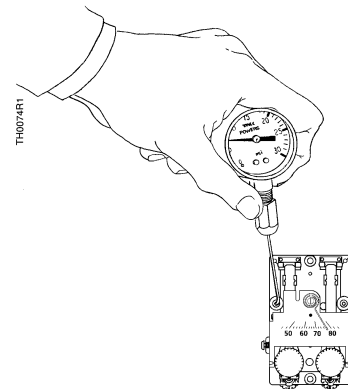

Figure 5. TH193 HC Output Pressure Heating Test Port.
The output pressure test port (Figure 5) is accessible without removing the thermostat cover through the 8th opening from the top as follows:
3. Moisten the needle and insert the test gauge and needle adapter in the heating test port (Figure 5). Read the control pressure.
Before troubleshooting the thermostat (see Table 1), make certain there is clean dry supply air at 18 psi (124 kPa) minimum. Use the test probe gauge and needle adapter to measure the control pressure at the output pressure test port (Figure 5). The output pressure test port is accessible without removing the thermostat cover through the 8th opening from the top as follows: